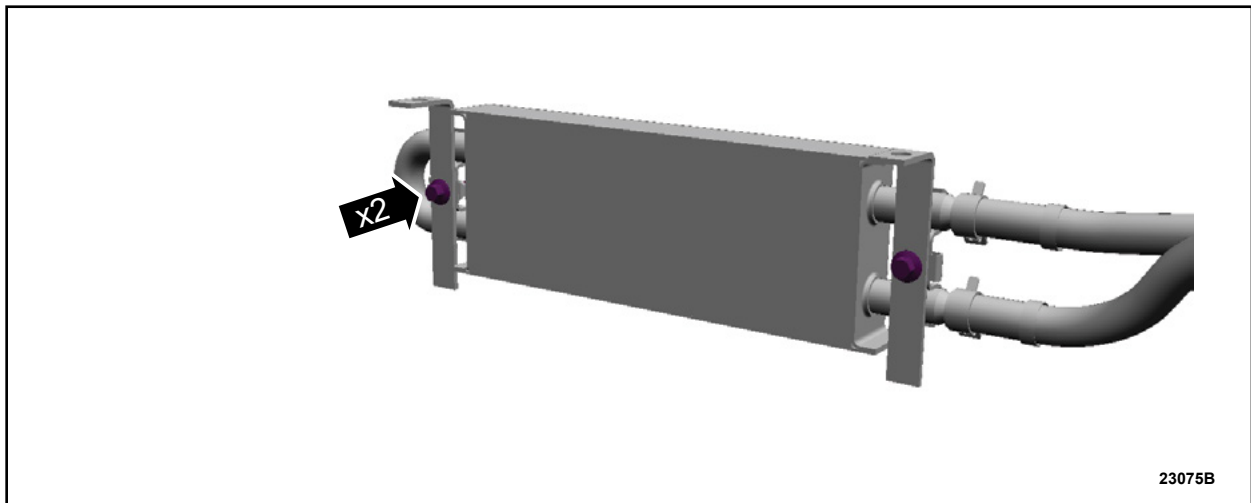

FIGURE 2
3. On both sides of the power steering cooler, remove the bolts holding the brackets to the cooler. See Figure 2.